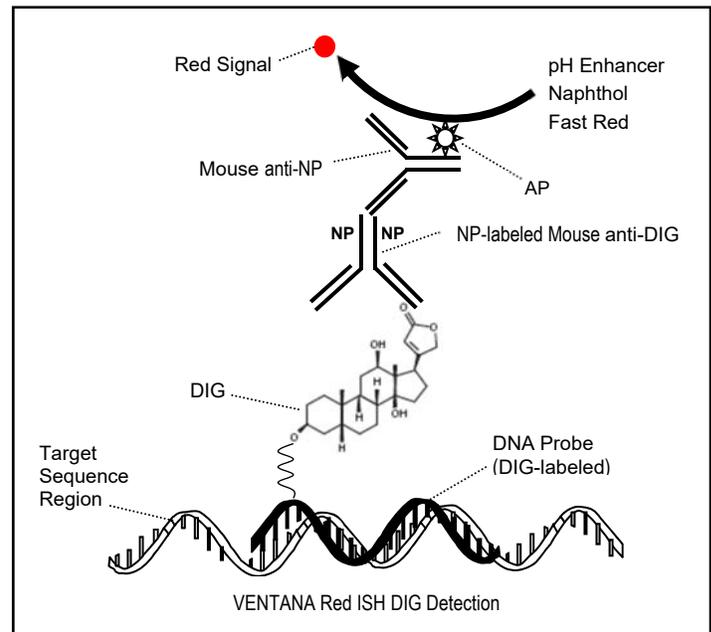

Figure 1. VENTANA Red ISH DIG Reaction.
The VENTANA Red ISH DIG Detection Kit detects probes labeled with digoxigenin (DIG) bound to a sequence in formalin-fixed paraffin-embedded (FFPE) tissue sections. This detection kit includes the following dispensers: mouse anti-DIG primary antibody labeled with nitroprazole (NP), mouse anti-NP secondary antibody conjugated to Alkaline Phosphatase (AP), pH Enhancer, Naphthol, and Fast Red. Following development of the ISH signal, the slide is incubated with the NP-labeled mouse anti-DIG primary antibody, which binds to the DIG haptens on the probe. The anti-hapten primary antibody is detected with the mouse anti-NP conjugated to AP enzyme. The slide is incubated with the pH Enhancer solution, which provides the proper salt components and concentrations and buffered pH for optimal AP enzyme performance. Next, naphthol phosphate is applied, which serves as the substrate for the AP enzyme (AP dephosphorylates naphthol). Fast Red, added to the slide next, combines with the dephosphorylated naphthol to form a red precipitate, which is readily visualized by light microscopy. Figure 1 illustrates the Red ISH DIG reaction. The specimen is then counterstained with Hematoxylin II for interpretation by light microscopy.
For more detailed information on instrument operation, refer to the appropriate User Guide. Figure 1 illustrates the indirect detection method.